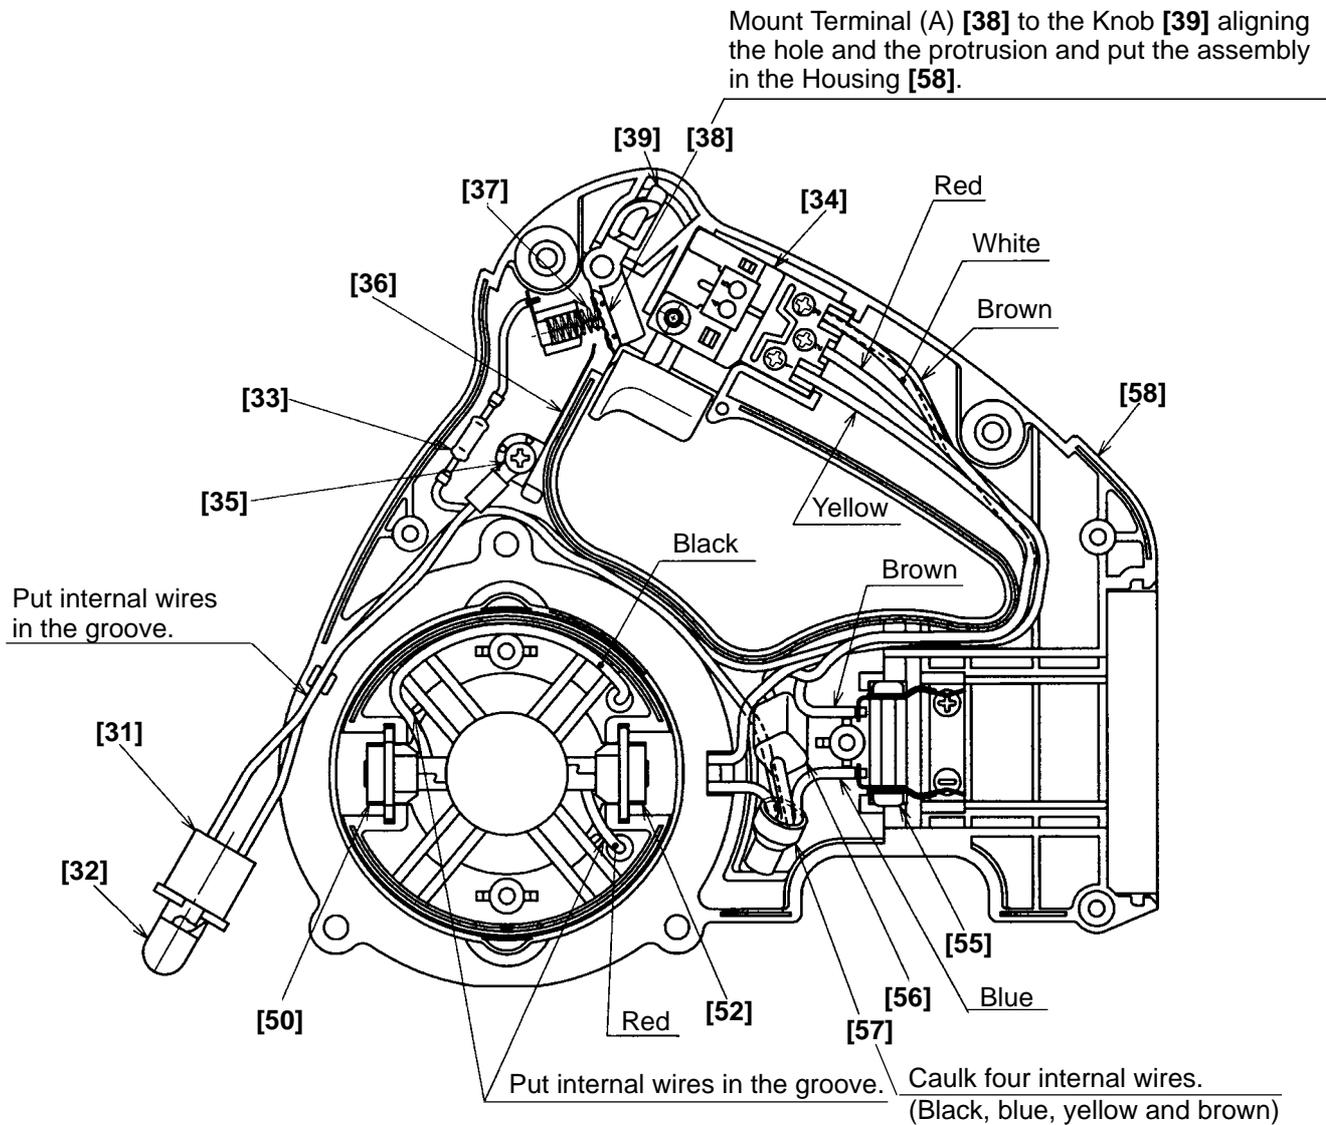

Fig. 5
(7) Internal wire arrangement (See Fig. 5.)
Connect internal wires as illustrated in Fig. 5. At this time, ensure that none of the wires are pinched between components during assembly. Mount the Knob [39], Terminal (A) [38] and Spring (F) [37] without fail. Connect the brown internal wire of the Terminal Piece Set [55] in the "+" direction of the Housing [58].